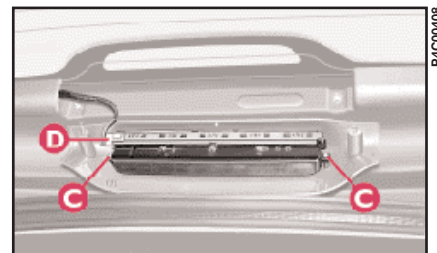

fig. 22
2) Loosen the two screws **C** (fig. 22), disconnect the connector **D** and separate the lens from the cover **B**.